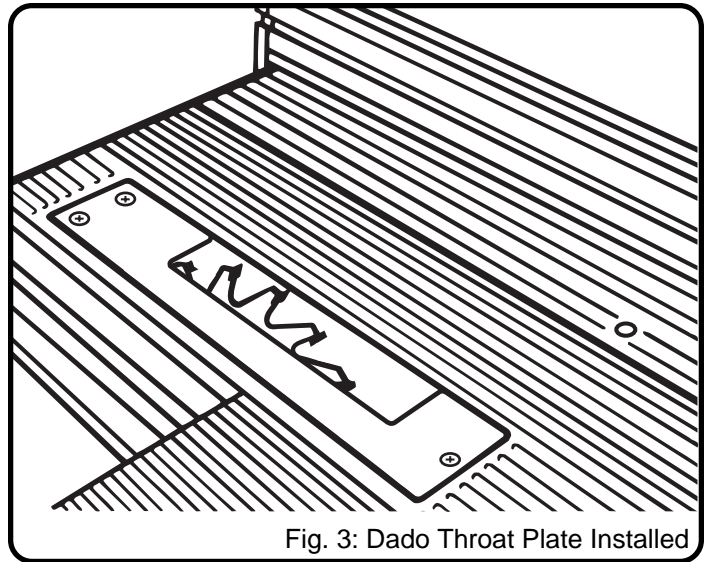

Fig. 3: Dado Throat Plate Installed
- Lower the dado blade and secure the dado throat plate with the three screws provided. Locate the first threads very carefully to avoid stripping. *See Figure 3.*